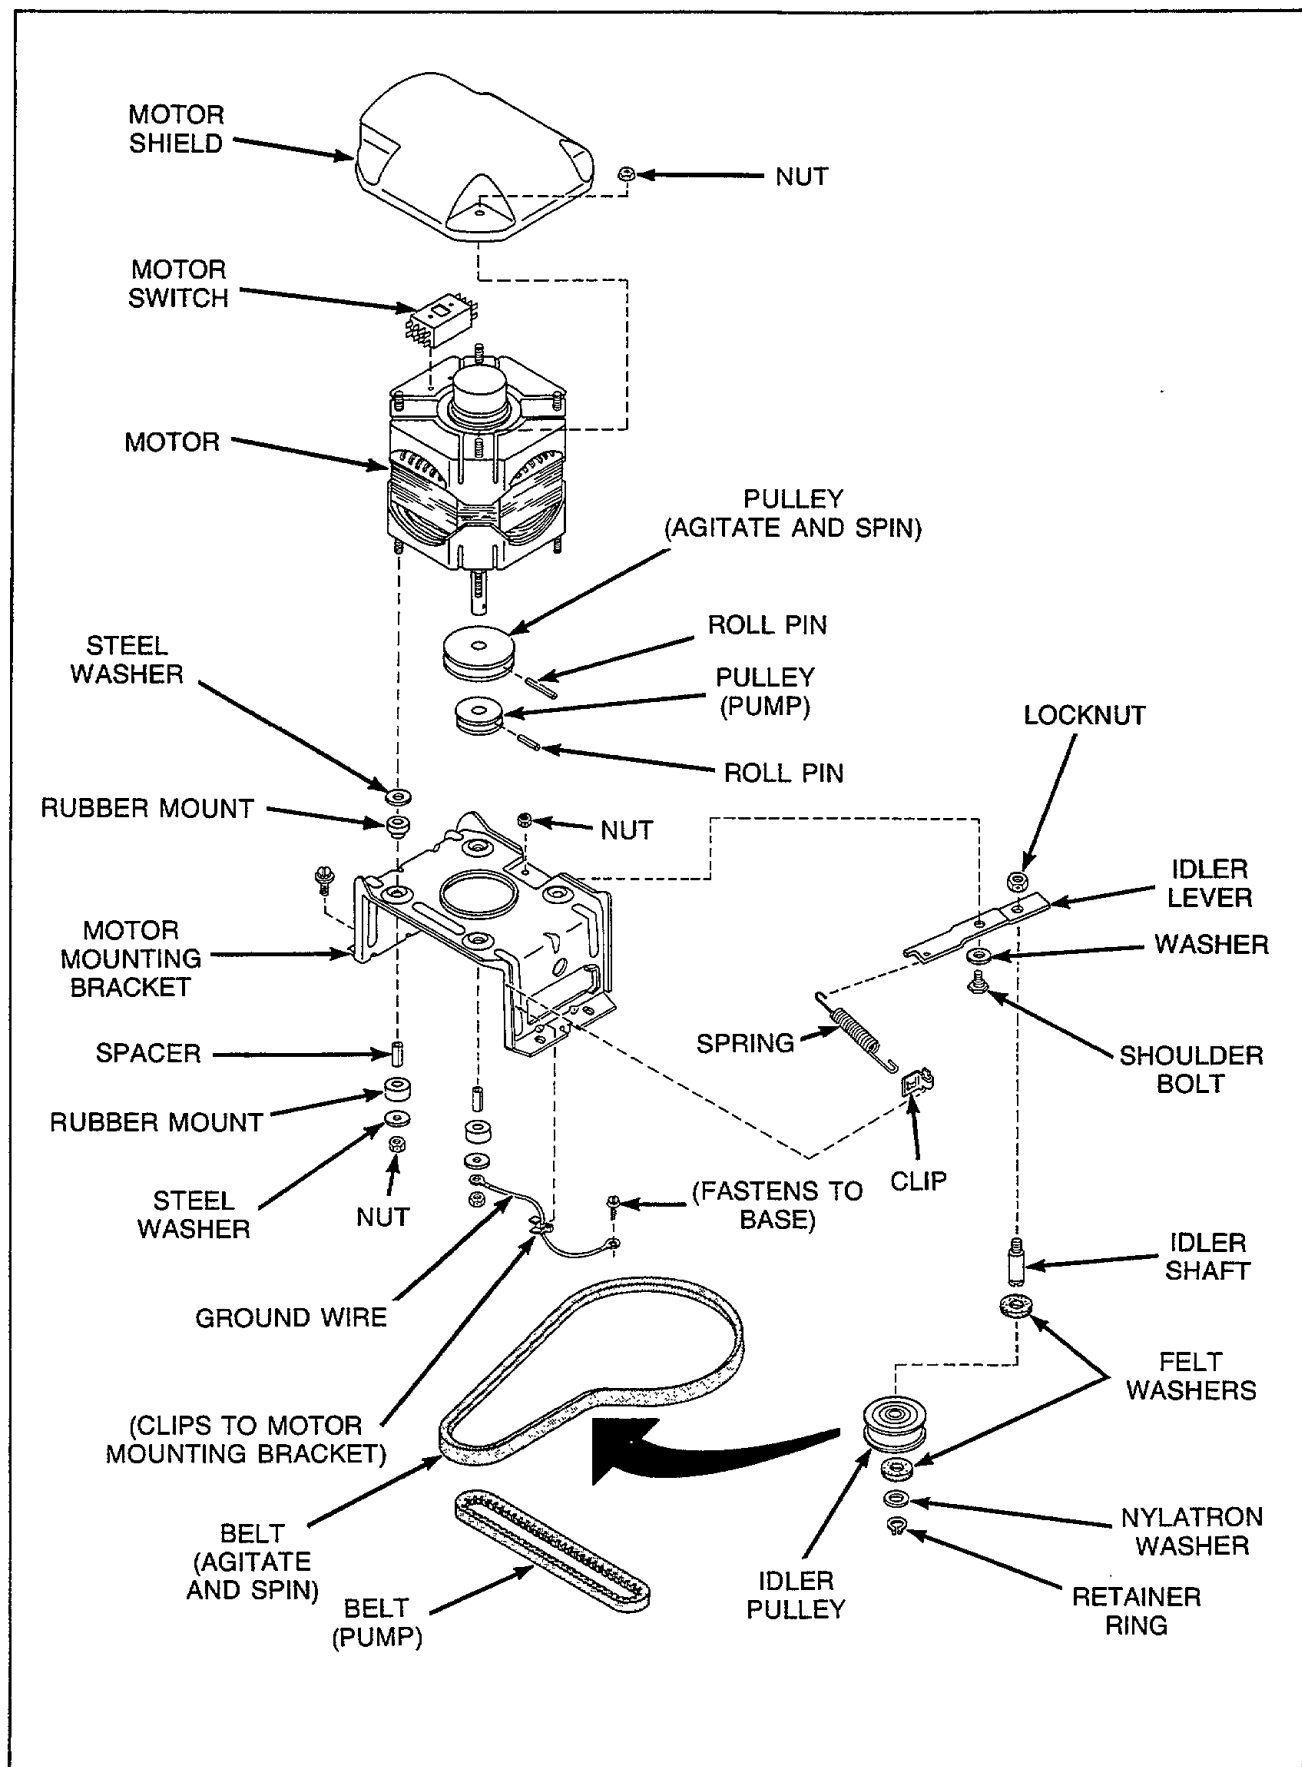

Figure 14
- f. Remove nuts, steel washers, spacers and rubber mounts holding motor to mounting bracket, *Figure 14*. Lift motor off mounting bracket and remove the remaining rubber mounts and steel washers from the motor mounting studs.
NOTE: Refer to *Figure 14* for motor and mounting bracket assembly sequence.
NOTE: Refer to *Figure 14* for idler lever and pulley assembly sequence.